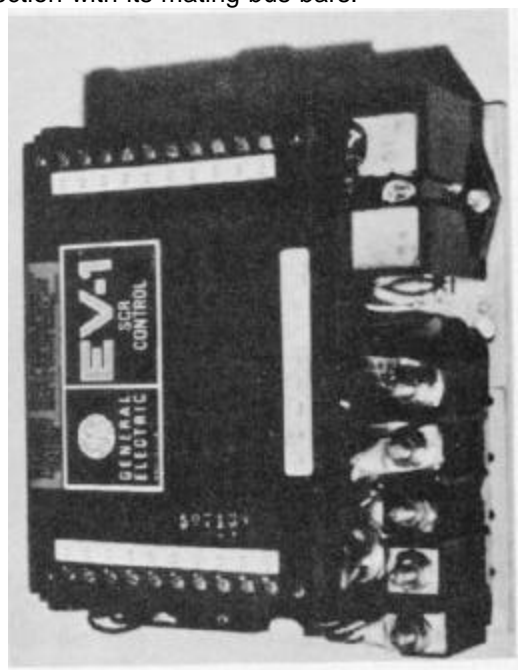

Figure 5-170
5. Remove the three lower power cables, TA2, PS2 and negative (-). Use a 1/2 inch wrench. Return hardware to the connector strip studs in the same order as removed but allow to remain loose (Fig. 5-170).
6. Remove the 5/16-18 hex nut, flat washer and split lockwasher from the bottom, outside SCR control power connector terminal (A1) (Fig. 5-170). Loosen the opposite end of the attached bus bar, where it attaches to the forward and reverse contactor bus bar. Remove the loosened bus bar from the (A1) terminal and swing it to one side.
7. Remove the hardware from the second lowest SCR control power connector terminal (N), negative (Fig. 5-170). Lift the bus bar from the terminal and swing aside.
8. Remove the hardware from the middle, SCR control power connector terminal (A2), (Fig. 5-170). Lift the bus bar from the terminal and swing aside.
9. Remove the hardware from the fourth SCR control power connector terminal (FW) contactor and bus bar. Loosen the remaining bolt and nut attaching the bus bar. Lift the bus bar from the (T2) terminal and swing to one side.
10. Remove the hardware from the fifth, inside SCR control power connector terminal (P), positive (Fig. 5-170). Remove the bolt, nut and hardware from the intersection with its mating bus bars.